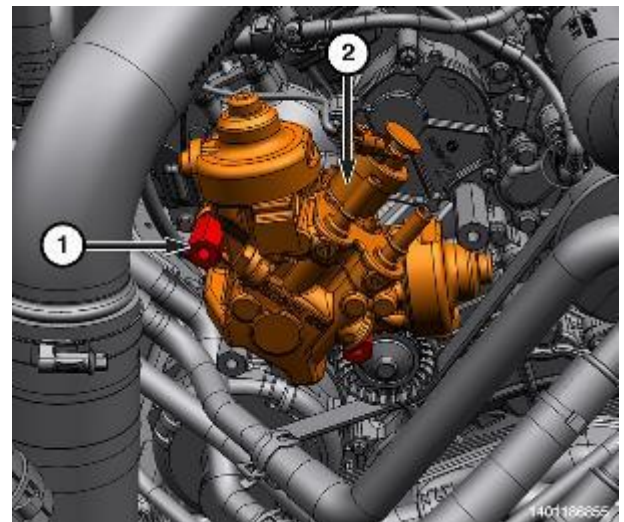

Figure 167 – Upper Bolts
- 33. Remove the upper bolts (1) from the high-pressure pump (2) (Figure 167).